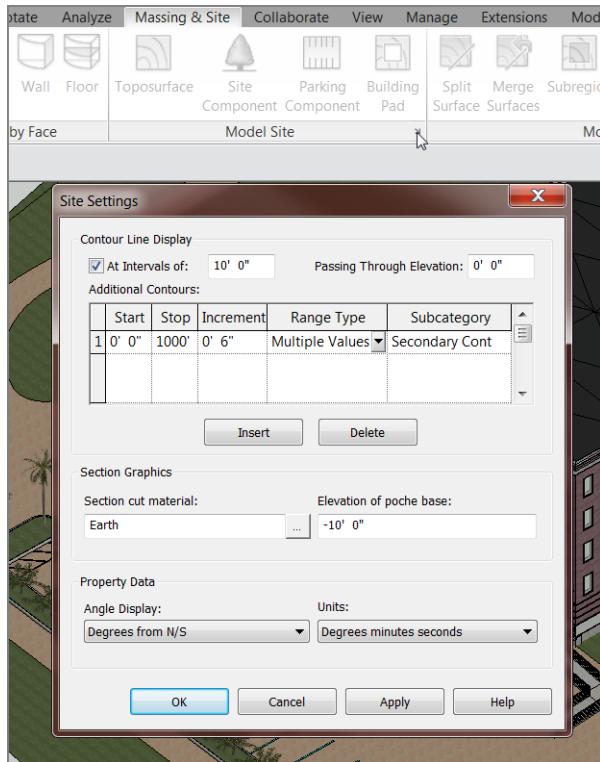

FIGURE 18.17: Changing the additional contour increment
1. Click the arrow in the lower-right corner of the Model Site panel, as shown in Figure 18.17.
2. In the Site Settings dialog box that opens is a field that contains additional contours. In the Increment panel, change the value 1'–0" (300mm) to 6" (150mm) (see Figure 18.17).